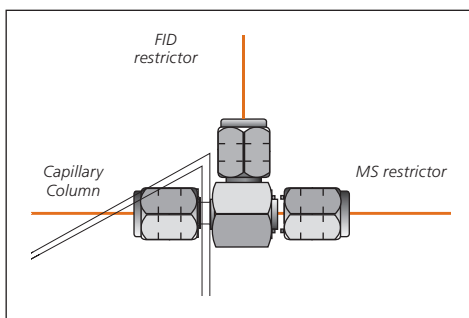

Figure 6. The column flow splitter with all connections
11. Slide a SilTite™ nut and ferrule on the other end of the capillary column and attach to the splitter by repeating steps 4 to 6 to finish the installation. (Figure 6)